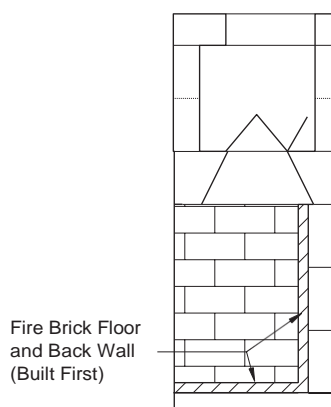

FIGURE 66
5. Set the side wall firebrick by starting at the front edge of the unit's side wall and working inward toward the back wall firebrick. The side wall firebrick, when completed, covers the 1/2" expansion gaps where both the floor firebrick and the back wall firebrick were held off the unit's side walls. (Figure 66)